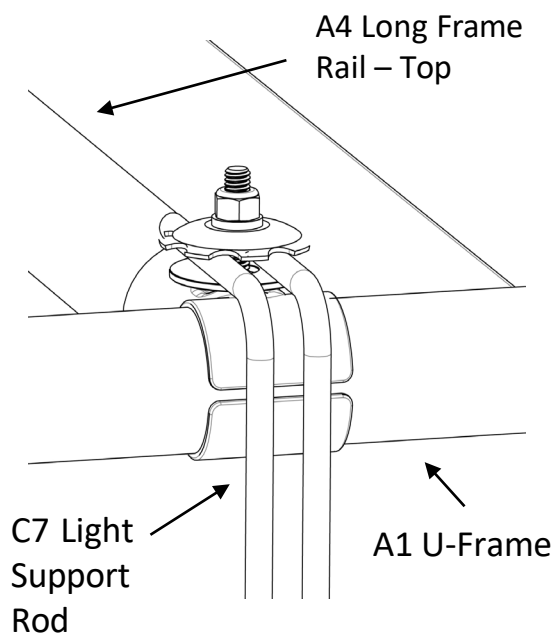

FIG. 4
8. Attach **Light Support Rods (C7)(x4)** to the top side of **Long Frame Rail – Top (A4)** ends using previously installed **Top Dome Washer Set (C3)(x2)** to capture both Light Support Rod ends. Un-tighten **M6 6x2.25" Cap Screws (B5)(x2)** to create space between **Dome Washers** and top **Flat Washers**. Insert **Light Support Rods (C7)** into gaps. Then re-tighten **M6 6x2.25" Cap Screws (B5)(x2)**. See FIG.4.